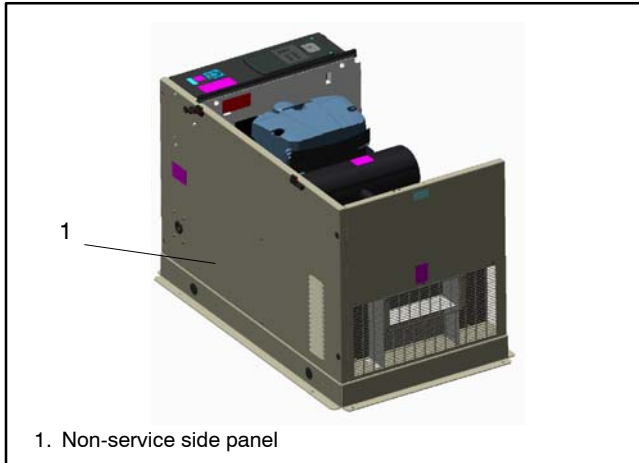

Figure 7-16 Non-Service Side Panel Location
14. Remove the remaining plugs and screws to remove the non-service side housing panel. See Figure 7-16.